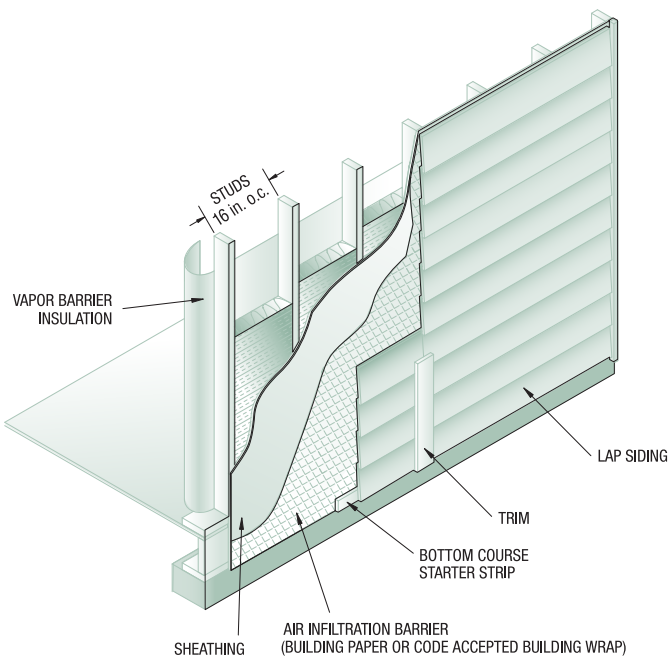

FIG. 6
- Vertically align butt joints at a stud (*See Fig 6*), fasten as required, gap 3/16 in., seal, and cover with trim.